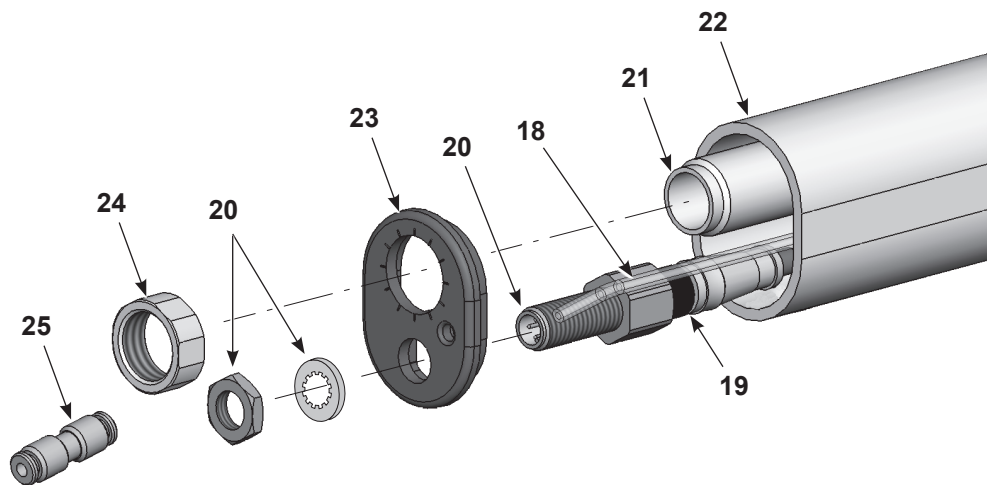
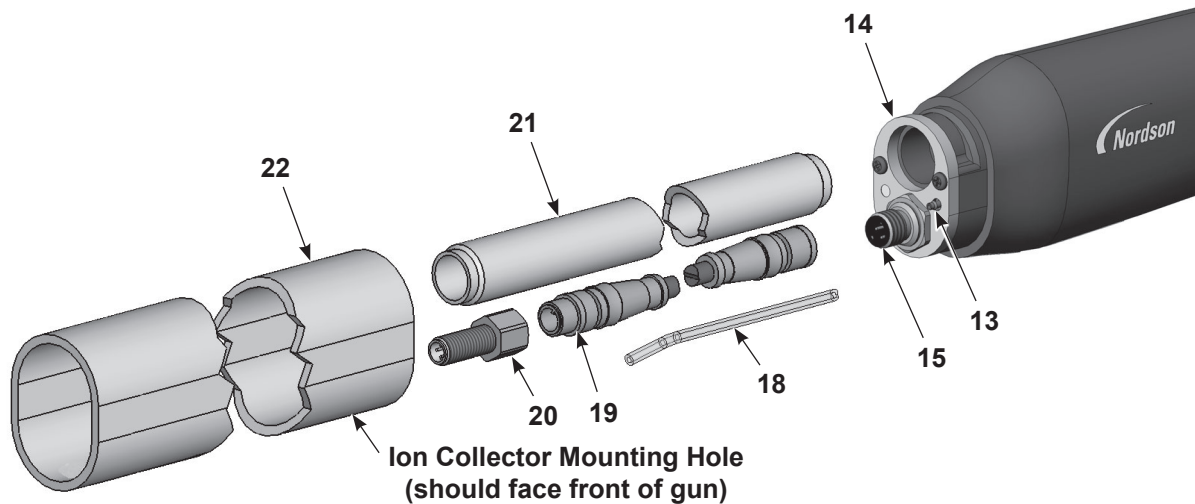
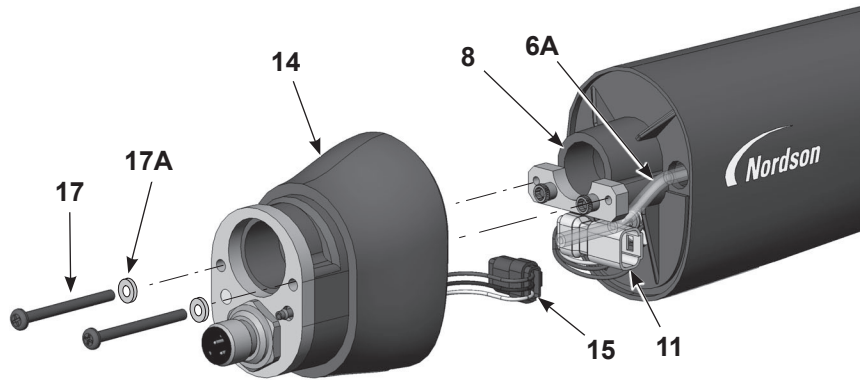
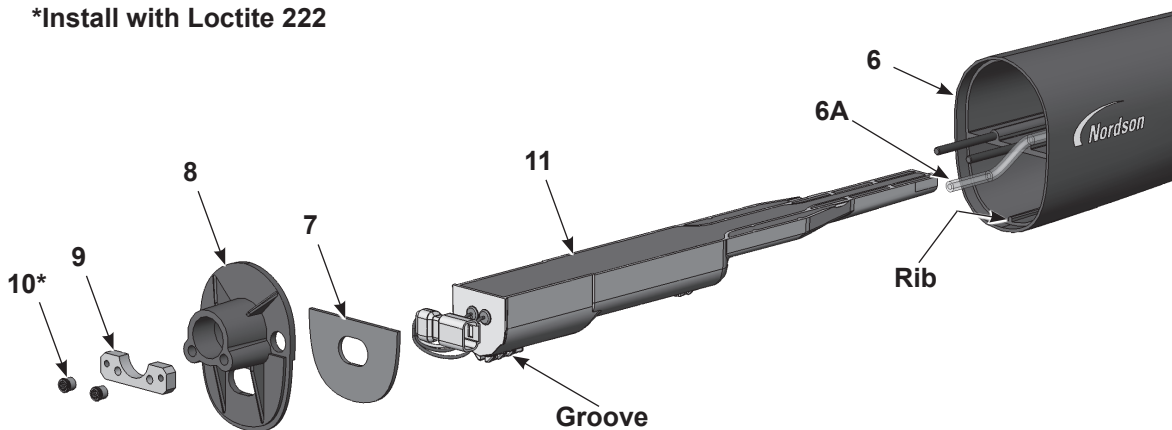

Figure 17 Tube-Mount Gun Disassembly 1 of 5
Figure 18 Tube-Mount Gun Disassembly 2 of 5
Figure 19 Tube-Mount Gun Disassembly 3 of 5
Figure 20 Tube-Mount Gun Disassembly 4 of 5
2. See Figure 17. Disconnect the union (25) from the clear 4-mm air tubing (18).
3. Disconnect the gun cable (not shown) from the cable receptacle (20).
4. Unscrew the clamping tube nut (24) from the clamping tube (21).
5. Remove the nut and lock washer from the cable receptacle (20). Save the nut and lock washer for reuse.
6. Pull the end cap (23) off the end of the gun.
7. See Figure 18. Pull the mounting tube (22) off the rear body assembly (14) and over the clamping tube (21).
9. Disconnect the extension cable (19) from the receptacle harness (15).
10. Disconnect the clear 4-mm air tubing (18) from the barbed fitting (13).
11. If you are replacing the extension cable, remove the cable receptacle (20). If not, you can leave them connected.
12. See Figure 19. Remove the two socket-head screws (17) and lock washers (17A) from the rear gun body (14).
13. Carefully pull the rear gun body far enough off the bulkhead (8) to disconnect the power supply harness (11) from the receptacle harness (15), and the filter assembly tubing (6A) from the barbed fitting inside the rear body.
14. See Figure 20. With a 1/8-in. hex key, remove the two Allen nuts (10) and screw plate (9) from the bulkhead (8). Then remove the bulkhead from the gun body (6), feeding the power supply harness through the bulkhead.
15. Slide the power supply (11) out of the gun body.
17. The gasket (7) is attached to the bulkhead with a pressure-sensitive adhesive. If the gasket is damaged, replace it with a new one.
1. See Figure 20. Install the power supply (11) into the gun body (6), making sure the gun body rib fits into the groove on the power supply. Seat the power supply firmly into the gun body.
2. Feed the power supply harness through the bulkhead (8), then install the bulkhead and screw plate (9) over the gun body studs. Apply Loctite 222 thread-locking adhesive to the Allen nuts (10) and thread them onto the studs. Torque the nuts to 0.45 N•m (64 inch-ounces) with a 1/8-in. hex key.
3. See Figure 19. Connect the receptacle harness (15) to the power supply harness (11). Tuck the harness connectors (11, 15) into the rear body assembly in the positions shown.
4. Connect the filter assembly tubing (6A) to the barbed fitting on the inside of the rear body. Feed any extra clear air tubing into the gun body, then install the rear body onto the bulkhead with the screws (17) and lock washers (17A).
5. See Figure 18. Screw the clamping tube (21) into the rear body (14).
6. Connect the extension cable (19) to the receptacle harness in the rear body assembly.
7. Connect the clear 4-mm tubing (18) to the barbed fitting on the rear body assembly.
8. Orient the mounting tube (22) with the ion collector hole facing towards the front of the gun.
9. See Figure 17. Connect the extension cable (19) to the receptacle (20) in the end cap (23).
11. Install the end cap on the mounting tube, feeding the clamping tube (21) and clear 4-mm tubing (18) through the end cap.
12. Secure the cable receptacle (20) to the end cap with the lock washer and nut.
13. Thread the clamping tube nut (24) onto the clamping tube and tighten securely.
14. Install the union (25) on the clear 4-mm tubing.